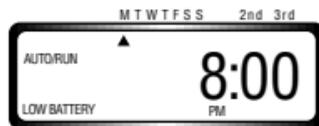

Figure 2
- Two 9 volt fully-charged alkaline batteries should last an entire watering season. However, check the timer periodically for low voltage. When the battery power drops below the safety zone, the “Low Battery” indicator appears on the display. Replace the batteries with new fully-charged batteries when this appears. [See Figure 2]